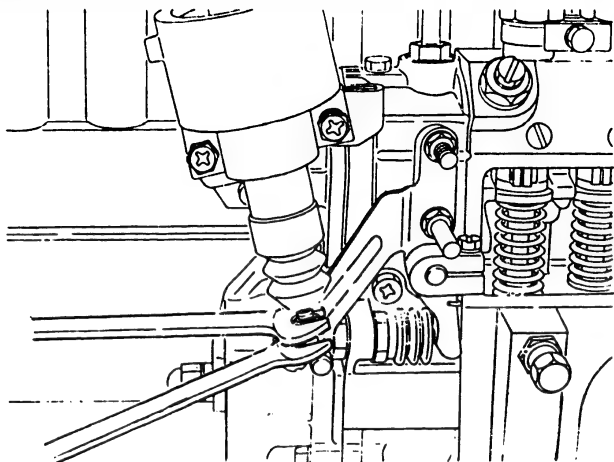

Fig. 91 Adjusting the cap
6. Adjust the control rack using the cap if it is not positioned as indicated in Step 3. (Fig. 91)